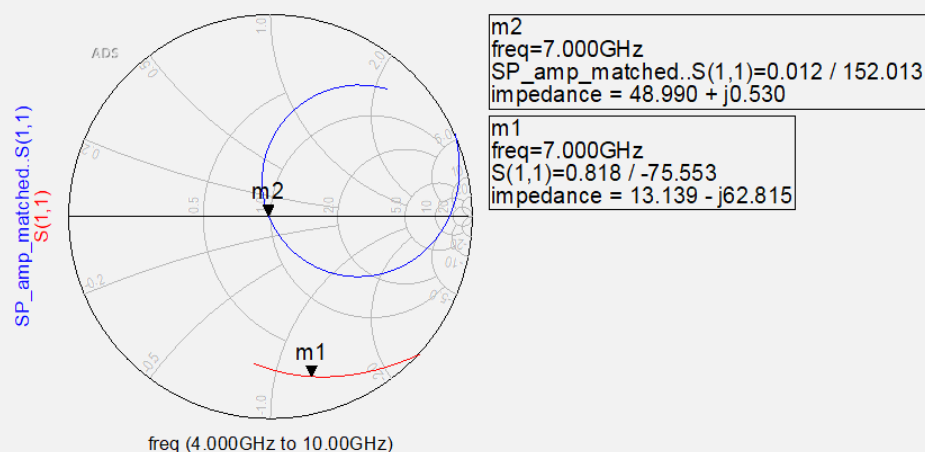

Figure 27. Smith Chart comparing S(1,1)
- Place a marker on the new trace at 7 GHz. As shown in Figure 27, the amplifier input is now matched to 50 Ω . As with before, double click on the marker to change **Z0** to **50**, which can be found under the Format tab. Click **OK**. If you wanted to further optimize, you can create an output matching network.